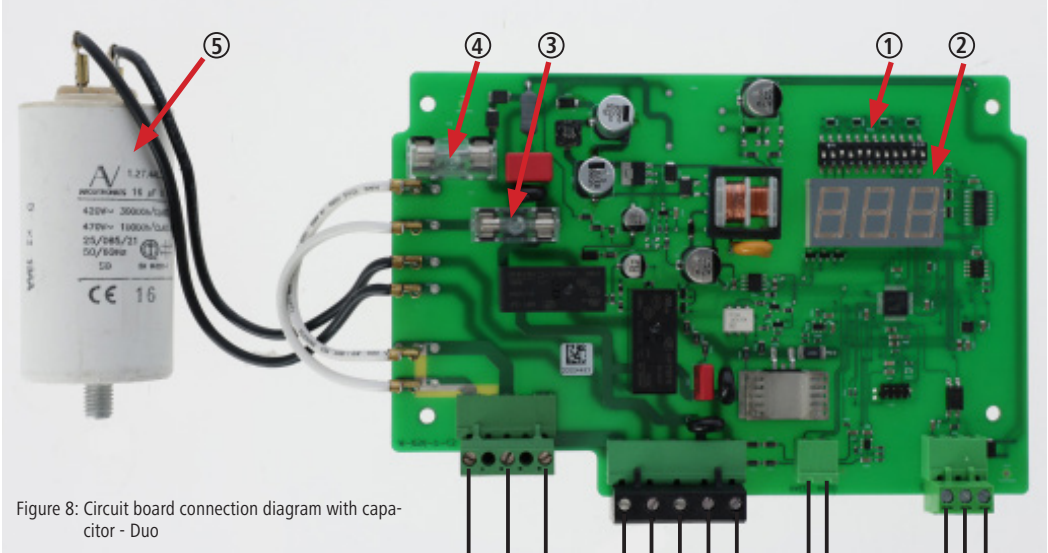

Figure 8: Circuit board connection diagram with capacitor - Duo
The cycle time is set at the factory to 60 seconds. If necessary, this can be adjusted using the dip switch element on the circuit board (Fig. 8 - item 1) to a value between 10 and 300 seconds. The cycle time may only be reset following consultation with MS Schippers. The default setting and therefore the ideal setting for the Cow Cleaning Machine Duo is T3.
Fuse 6, 3 A (Fig. 8; item 3+4) on the circuit board has burned through or has come loose.	• Disconnect the control unit from the mains and secure it against being switched on again. • Check the secure position of the fuses. Replace defective fuses. (Fig. 8 – item 3+4) • If there is no indication on the display when restarting with replaced fuses, then the main board is defective.